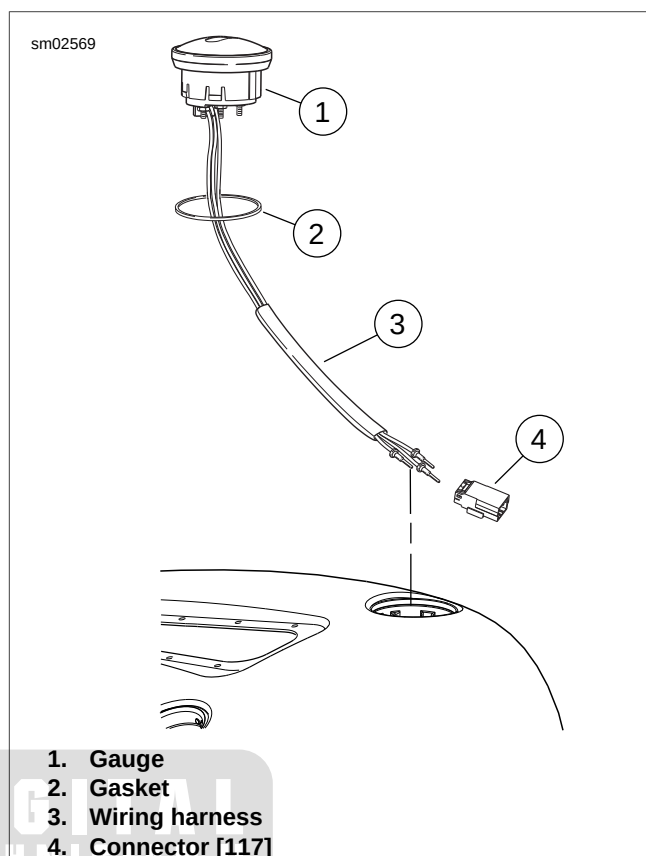

Figure 7-44. Fuel Gauge: All but FXD
5. See Figure 7-44. Pull up on gauge (1). Remove gauge, gasket (2) and wiring from fuel tank. Discard gasket.
1. See Figure 7-44. Install wiring harness (3) through new gasket (2).
3. While gently pulling on wiring harness, install gauge (1) and gasket by carefully moving gauge back and forth while pushing down at the same time.
4. Install wiring into connector (4) [117]. Mate connector halves.